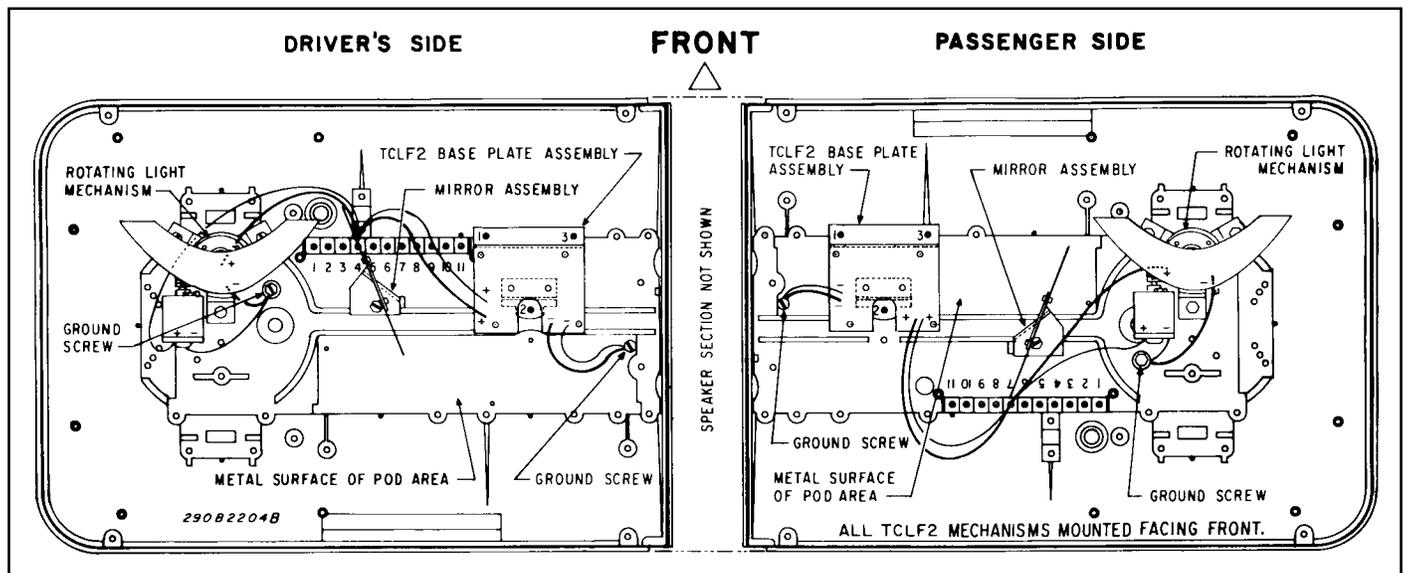
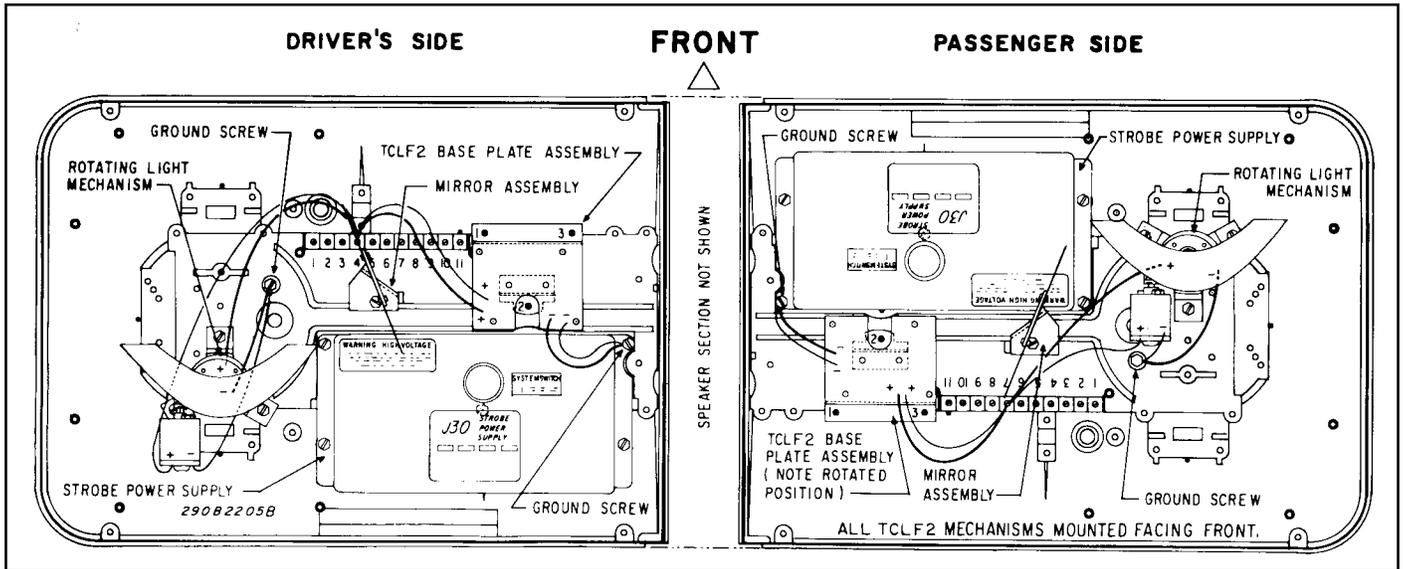

Figure 3.
Figure 4.
8. If two traffic clearing lights are going to be installed, also perform steps 1 through 7 on the passenger side of the Light Assembly. See figure 3 for the mounting location.
2. When two traffic clearing lights are going to be installed, follow the procedure described in steps C.1. through C.8. Note that the passenger side base plate assembly is installed adjacent to the molded terminal block as shown in figure 4.
1. The lamp lead and "positive" motor lead are connected in one insulated female quick-disconnect terminal. Connect this terminal to the same terminal block position that previously had rotating light mechanism wires connected (refer to step C.4.). Refer to figure 3 or figure 4 and note that this is position 4 on the driver's side terminal block and position 7 on the passenger side terminal block.
2. On units without the strobe light option installed, connect the motor ground wire and ground wire from the traffic clearing light base to the metal frame of the Light Assembly. This is best accomplished by loosening a screw in the pod area, which exposes the metal frame, closest to the traffic clearing light mechanism. Attach the two wires and re-tighten the screw (see figure 3).
3. On units with the strobe light option installed, connect the motor ground wire and ground wire from the traffic clearing light base to one of the screws which secure a corner of the strobe power supply to the metal Light Assembly frame (see figure 4).
The kit contains a left and a right mirror mounting bracket, a mirror, (2) #4 machine screws, (2) 4-40 hex nuts and a #10 x 3/8 hex head screw. Attach the mirror to the appropriate mirror mounting bracket with the #4 screws and nuts. The shiny side of the mirror should be oriented to the rear at the angle shown in figure 3 or 4. Use the #10 screw to secure the mirror bracket to the Light Assembly base.